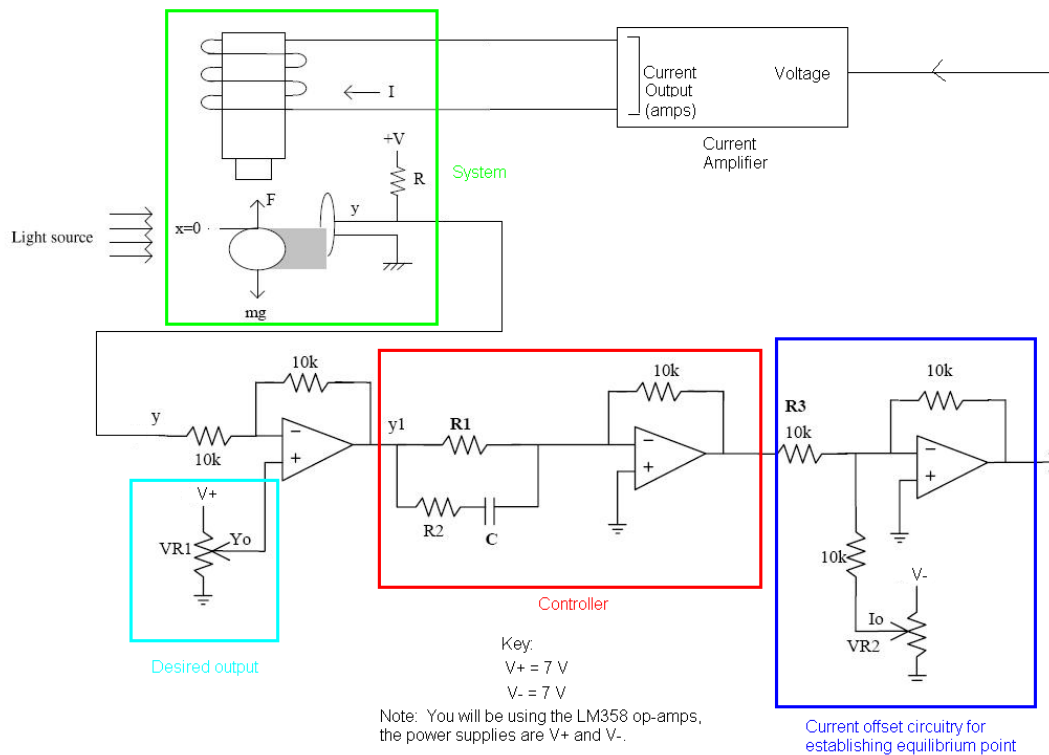

Figure 3: You will be picking values for R1, R2 and C for stable equilibrium
Figure 3 shows the block diagram with circuit level details [1].
3. Measure the range of variation of the resistance of the photo-resistor as the ball's shadow covers from none to all of the resistor surface. Using this data, determine a suitable resistor value  $R$  to use in series with the photo-resistor (see figure 3,  $V_+ = 7$  V and the photo-resistor is rated @ 250 mW power dissipation). [1]
1. Place the ball at the zero position. Adjust the pot in the first amplifier in figure 3 such that  $y_1 = 0$ .